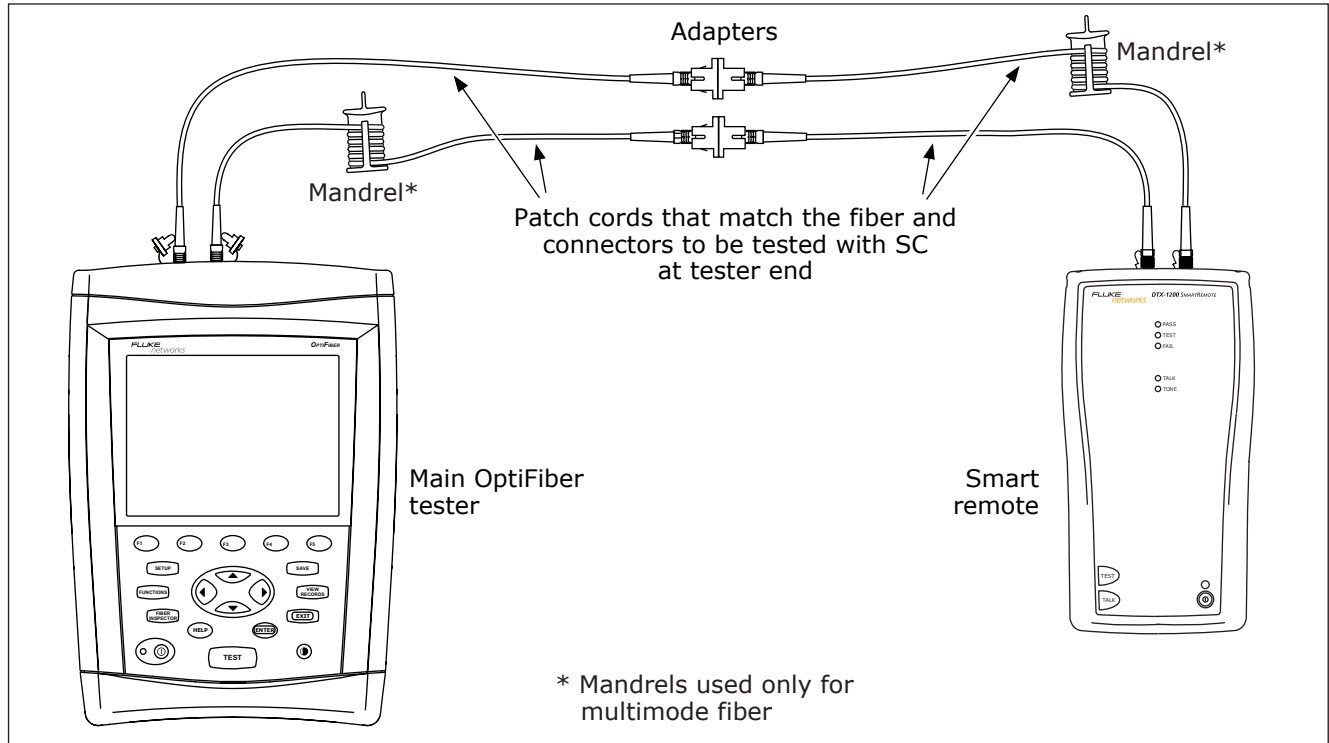

Figure 22. Smart Remote Mode Reference Connections
- At the beginning of each day using the remote end setup (Figures 22 through 29) you will use that day. The tester reminds you to set the reference if the reference is more than 12 hours old.
Figure 20 shows how to wrap the fiber around a mandrel. Place mandrels on the tester's output fibers, as shown in Figures 22 through 29.
- 7 **On the main tester:** press **FUNCTIONS**; then select **Set Loss/Length Reference**. Connect the reference patch cords as shown on the screen and in Figure 22; then press **ENTER**.